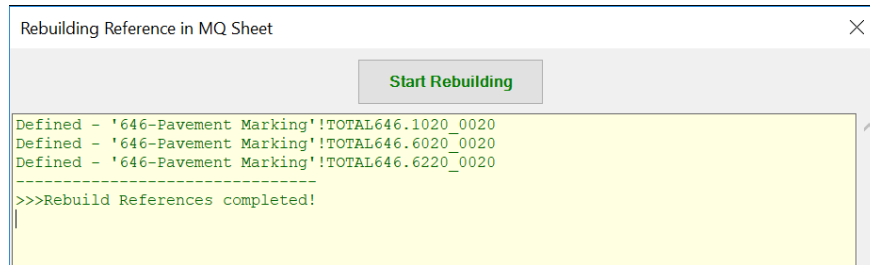

Figure 6.2 “Rebuilding reference in MQ Sheet” dialog box after references have been built.
3. Select **Q2P > MQ Sheet > Rebuild References** to bring up the “Rebuilding reference in MQ Sheet” dialog box (Figure 6.2) and select “Start Rebuilding” to create the proper named ranges for the bid item total(s).